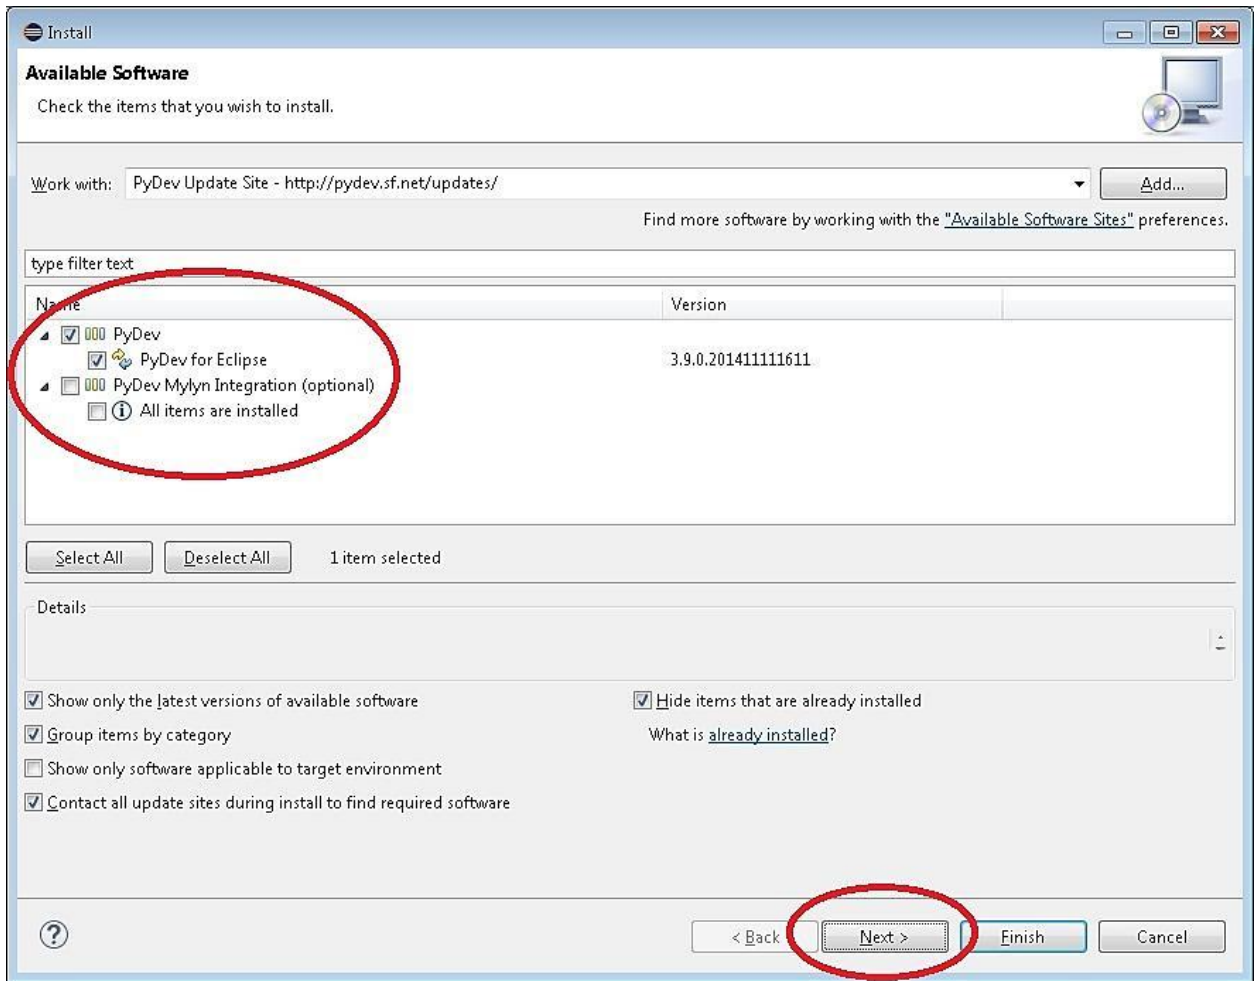

Figure 7: Installing PyDev Plug-in for Eclipse (continued)
- Select PyDev for Eclipse (PyDev Mylyn Integration is optional) -> Next (Figure 7).